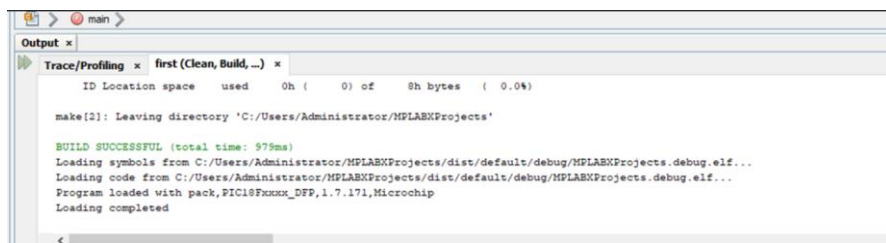

Fig 4.30 Output Window
26. Watch for the build success in the output window as shown in Fig 4.30.